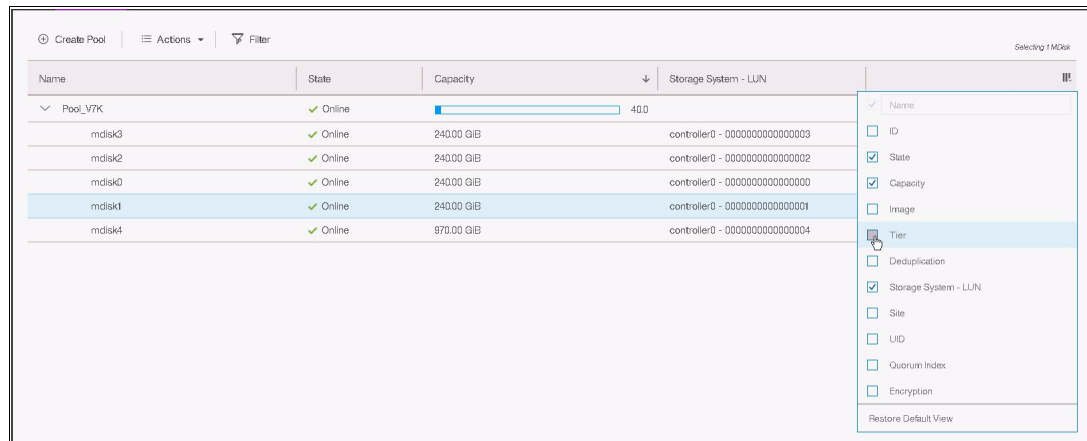

Figure 4-29 Customizing the title row to show the tier column
3. If you do not see the Tier column, right-click the blue title row and select the **Tier** check box, as shown in Figure 4-29.